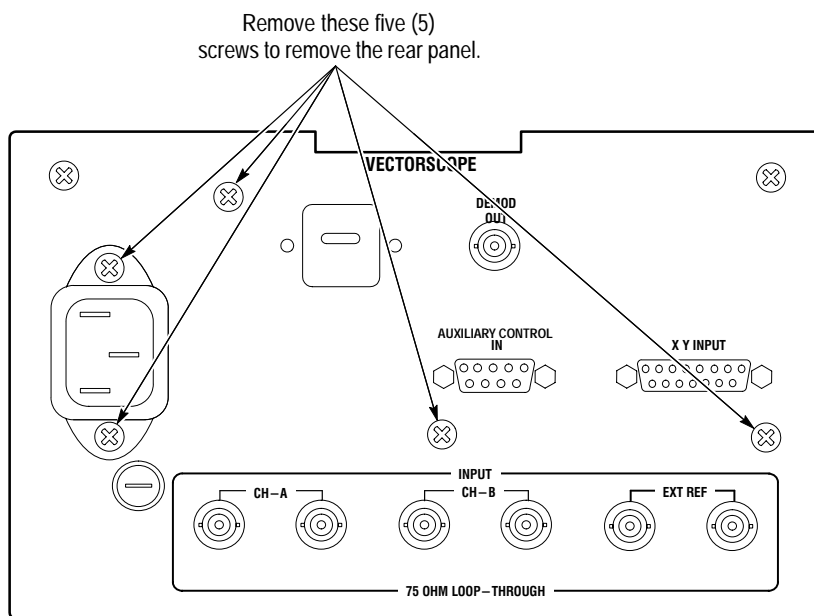

Figure 6-4: Screws that need to be removed to remove the rear panel
1. Remove the five rear screws. See Figure 6-4.